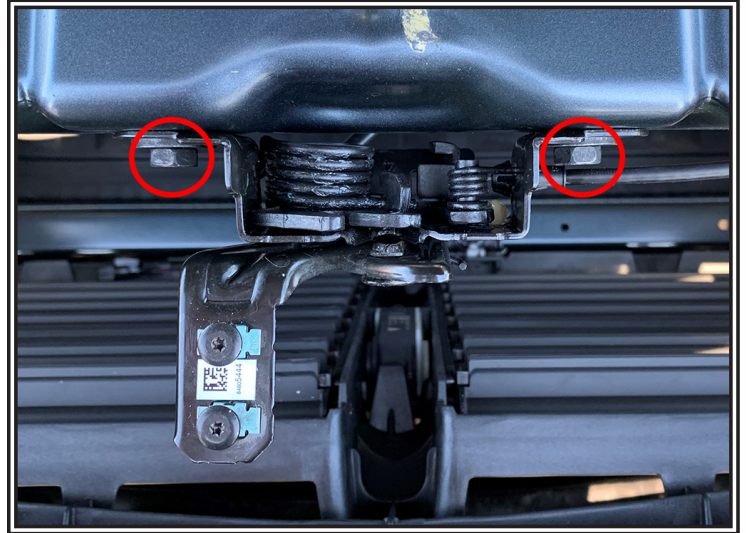

Figure 1
Step 2. Remove the hood latch mounting bolts shown in Figure 1.